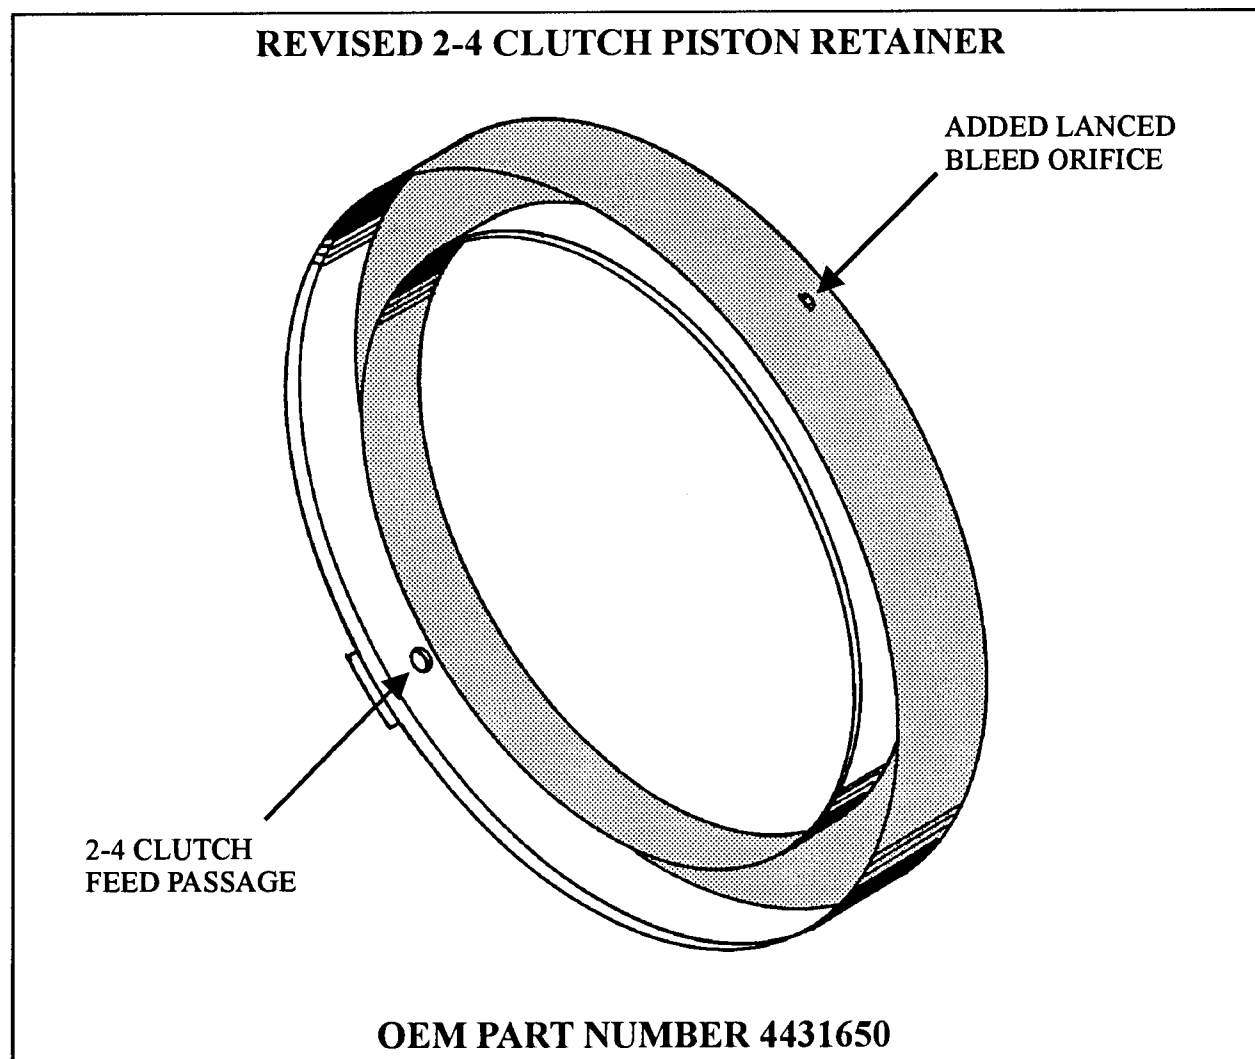

Figure 66
CHANGE: Beginning at the start of production for the 1995 model year, all Chrysler A604 (41TE) and A606 (42LE) transaxles were produced using a revised 2-4 Clutch Piston Retainer with an added lanced bleed orifice (See Figure 66).
- (1) 2-4 CLUTCH PISTON RETAINER - Lanced bleed orifice added to the retainer in the location shown in Figure 66.